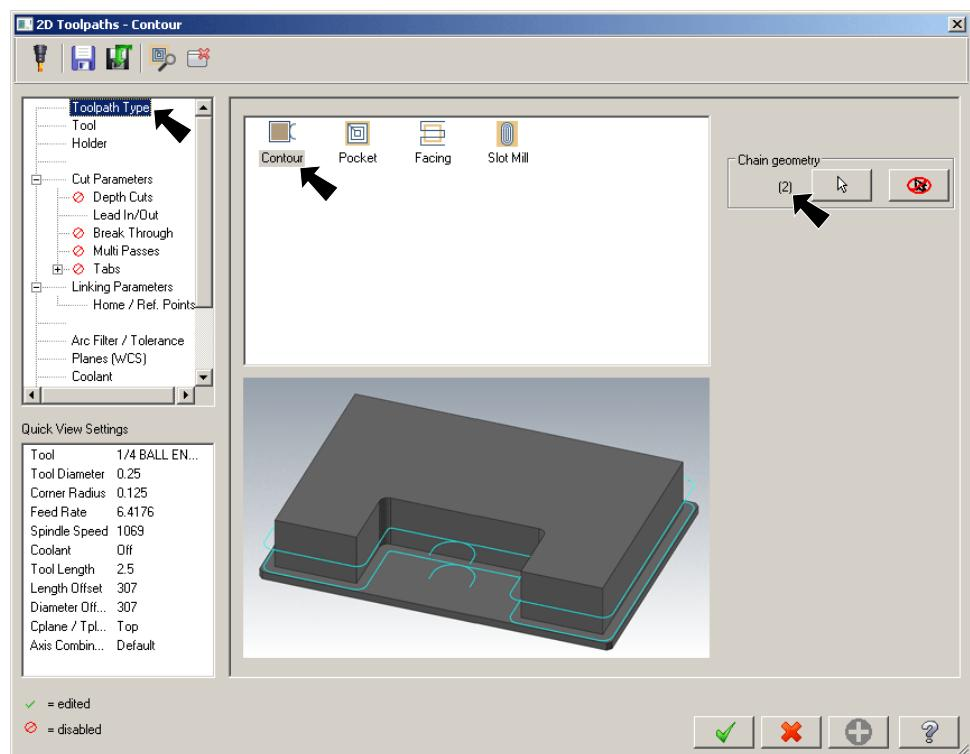

Fig. 86
Step 9. In the 2D Toolpaths Contour dialog box confirm **2 Chains** are selected, Fig. 86.